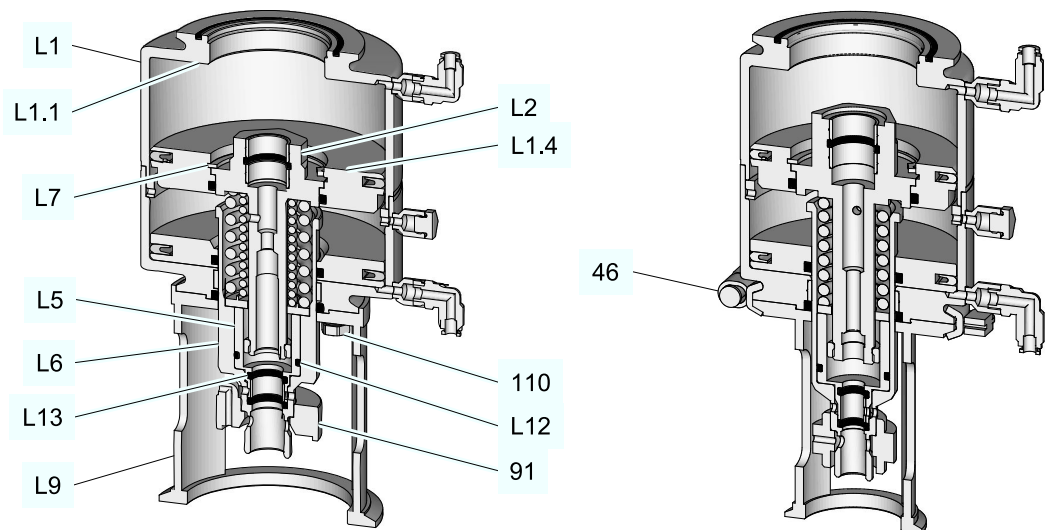

Fig.28
6. **Rated widths up to 2" OD and DN 50:** Release and remove the clamp connection (46), see figure 28.
Rated widths from 2.5" OD and DN 65: Release and unscrew the hex screws (110), see figure 28.